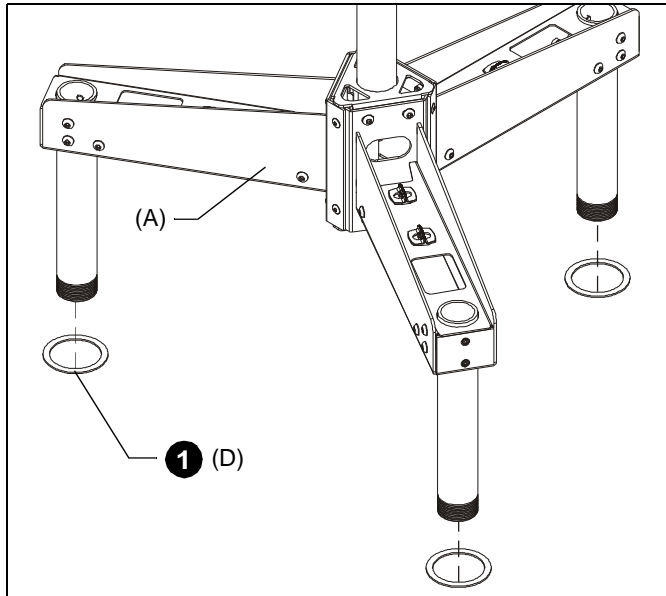

Figure 4
1. **OPTIONAL:** Slide one rotation ring (D) up onto leg of the triple ceiling accessory (A). (See Figure 4)